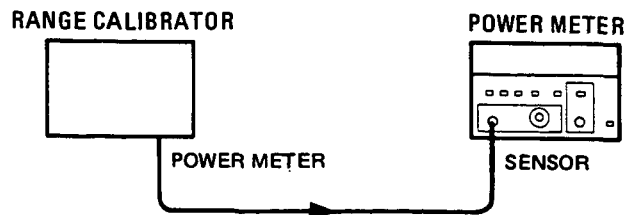

Figure 4-2. Instrument Accuracy Test Setup
3. Connect the equipment as shown in Figure 4-2.